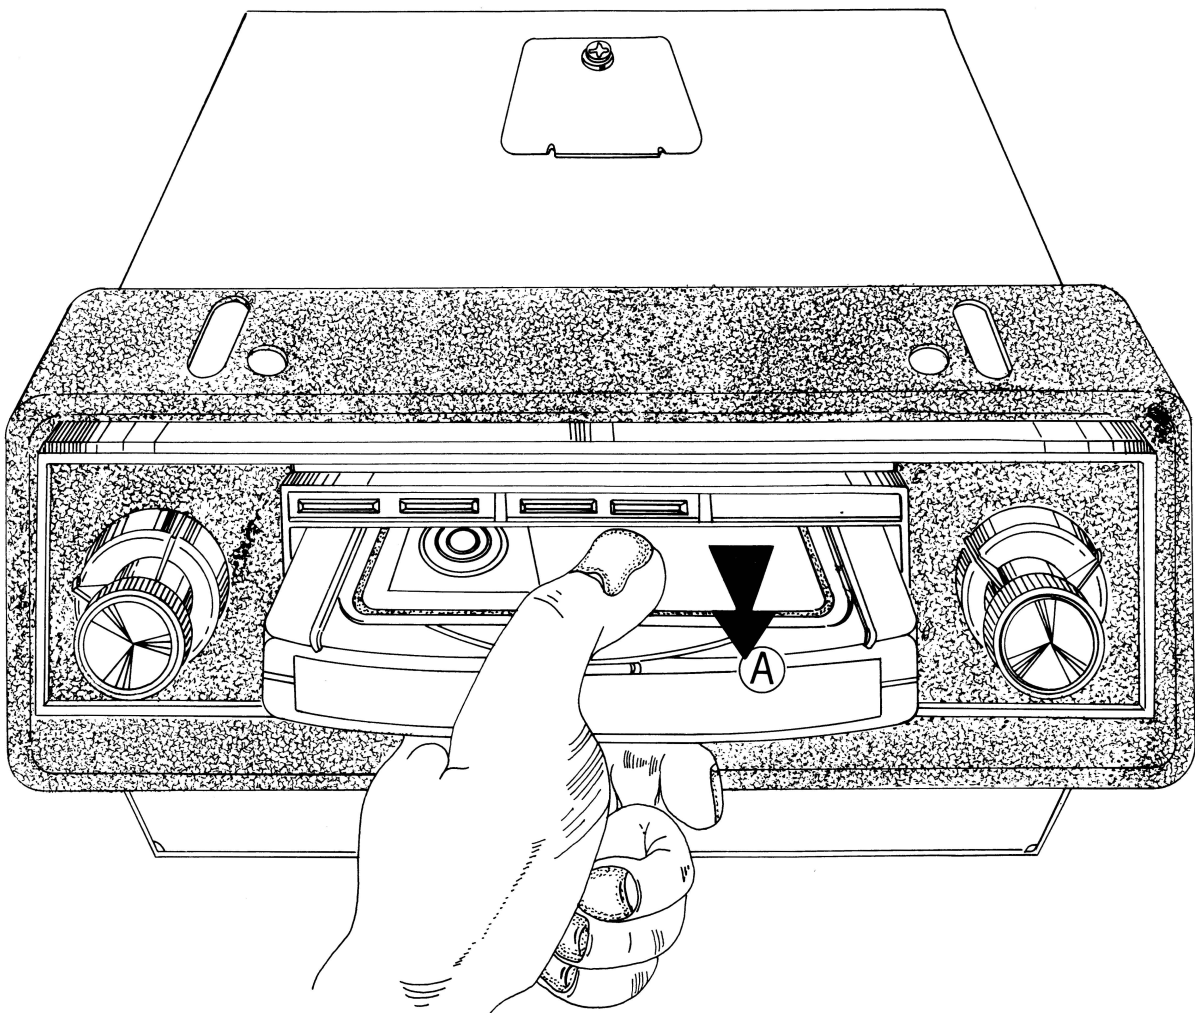

Fig. 4
*** STOPPING (Refer to Fig.4.)**